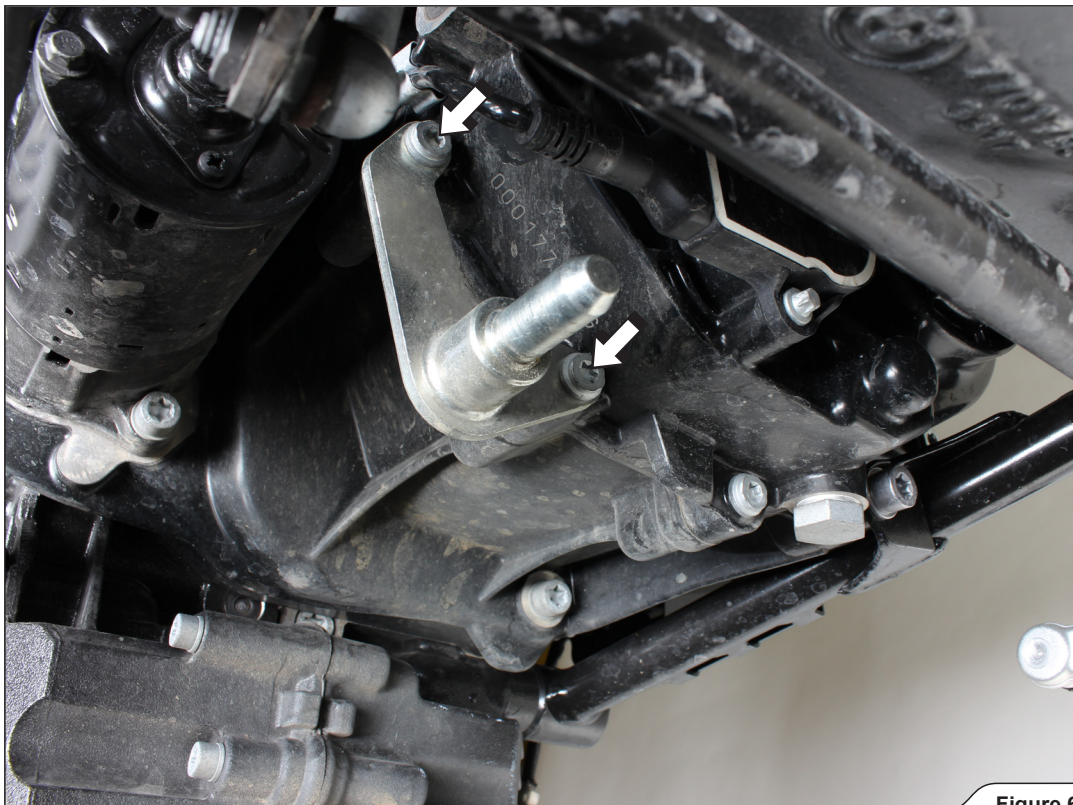

Figure 6
7. Unscrew the clamp's bracket off the engine (Figure 6).